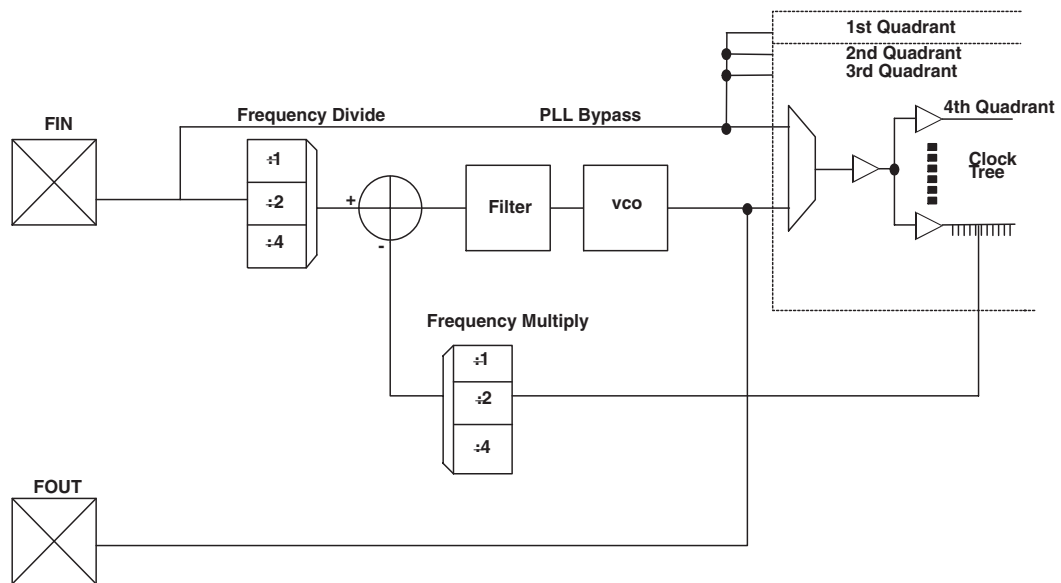

Figure 17: PLL Block
Figure 17 illustrates a typical QuickLogic ESP PLL.
Within the PLL, a voltage-controlled oscillator (VCO) is added to the circuit. The external F_{in} signal and the local VCO form a control loop. The VCO is multiplied or divided down to the reference frequency, so that a phase detector (the crossed circle in **Figure 17**) can compare the two signals. If the phases of the external and local signals are not within the tolerance required, the phase detector sends a signal through the charge pump and loop filter (**Figure 17**). The charge pump generates an error voltage to bring the VCO back into alignment and the loop filter removes any high frequency noise before the error voltage enters the VCO. This new VCO signal enters the clock tree to drive the chip's circuitry.
Most QuickLogic products contain four PLLs, one to be used in each quadrant. The PLL presented in **Figure 17** controls the clock tree in the fourth Quadrant of its ESP. As previously mentioned, QuickLogic PLLs compensate for the additional delay created by the clock tree itself by subtracting the clock tree delay through the feedback path.
a. The data provided in **Table 17** are JEDEC and PCI Specifications. QuickLogic devices either meet or exceed these requirements. For data specific to QuickLogic I/Os, see preceding **Table 1** through **Table 13** and **Figure 1** through **Figure 17**.